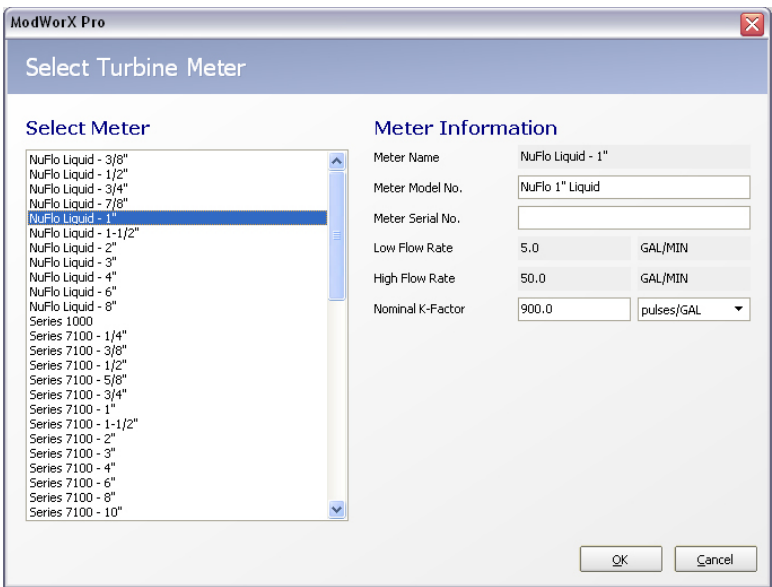

Figure 13.6
- To select a new meter, click **Select Meter**. The Select Turbine Meter dialog will appear (Figure 13.6).